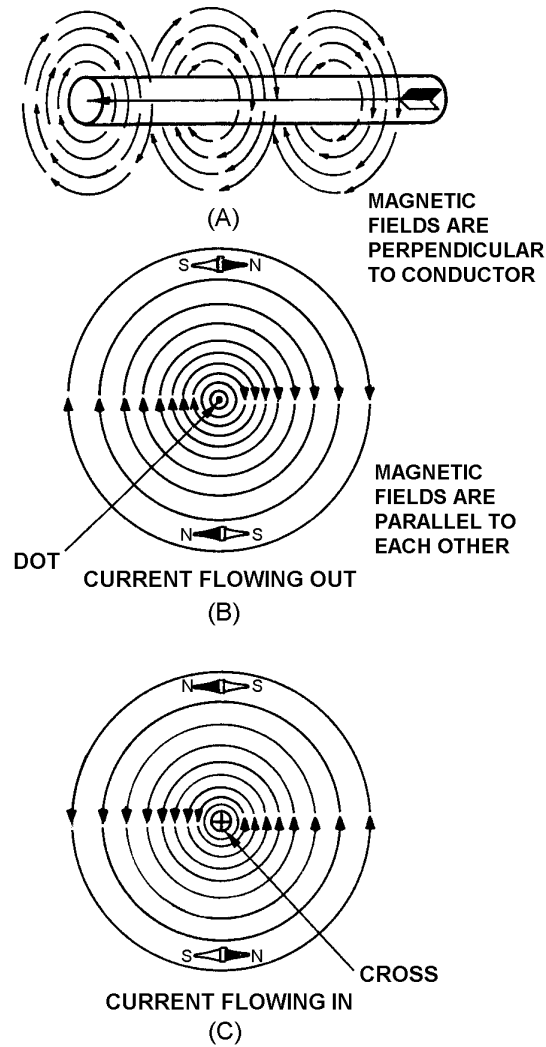
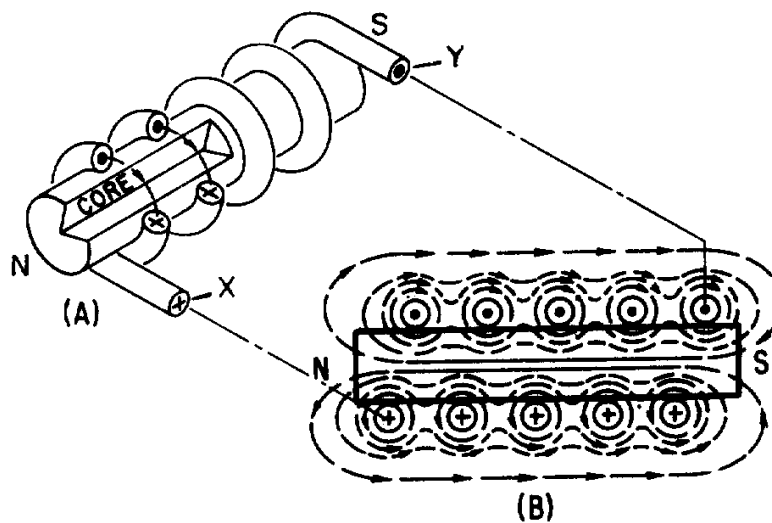

Figure 1-3.—Magnetic field around a current-carrying conductor, detailed view.
Figure 1-5.—Magnetic field produced by a current-carrying coil.
An arrow is generally used in electrical diagrams to denote the direction of current in a length of wire (see figure 1-3(A)). Where a cross section of a wire is shown, an end view of the arrow is used. A cross-sectional view of a conductor that is carrying current toward the observer is illustrated in figure 1-3(B). Notice that the direction of current is indicated by a dot, representing the head of the arrow. A conductor that is carrying current away from the observer is illustrated in figure 1-3(C). Note that the direction of current is indicated by a cross, representing the tail of the arrow. Also note that the magnetic field around a current-carrying conductor is perpendicular to the conductor, and that the magnetic lines of force are equal along all parts of the conductor.
Figure 1-3(A) illustrates that the magnetic field around a current-carrying wire exists at all points along the wire. Figure 1-5 illustrates that when a straight wire is wound around a core, it forms a coil and that the magnetic field about the core assumes a different shape. Figure 1-5(A) is actually a partial cutaway view showing the construction of a simple coil. Figure 1-5(B) shows a cross-sectional view of the same coil. Notice that the two ends of the coil are identified as X and Y.